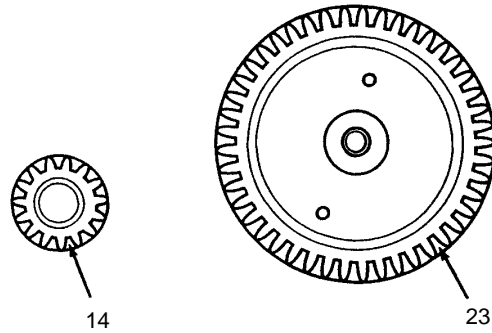

Figure 2
- (2) Soft or sticky distributor and rotor gears (14, 23) indicate moisture contamination and require component replacement (reference Slick Maintenance and Overhaul Manual L-1037). See Figure 2.
- (12) Harness Cap "O" Ring (not shown in Figure 2) - Check "O" ring M3184 for wear and replace as necessary.